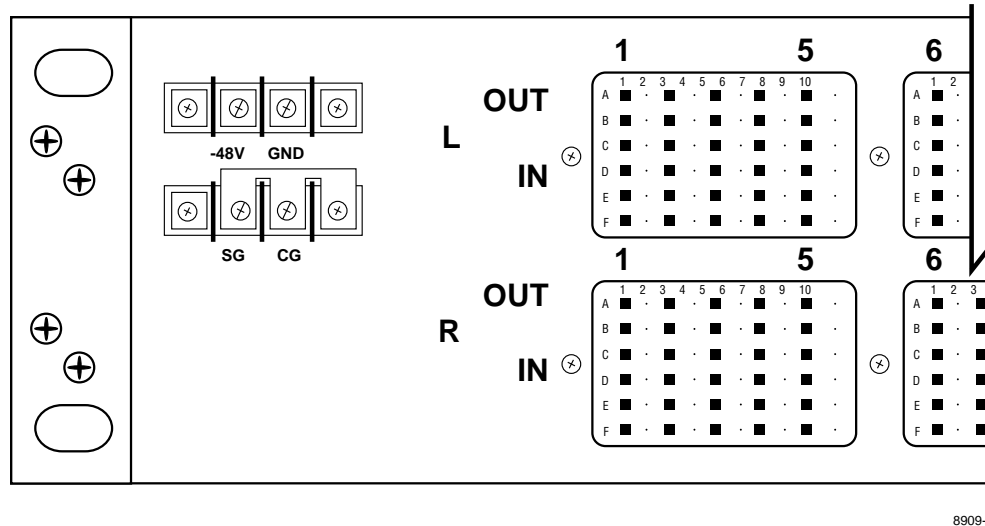

Figure 8. Typical Bantam Interbay Module Power Terminal Strip
4.02 A typical DSX-1/1C Interbay Patch Module power terminal strip is shown in Figure 8. Connect each module to the fuse module as follows: